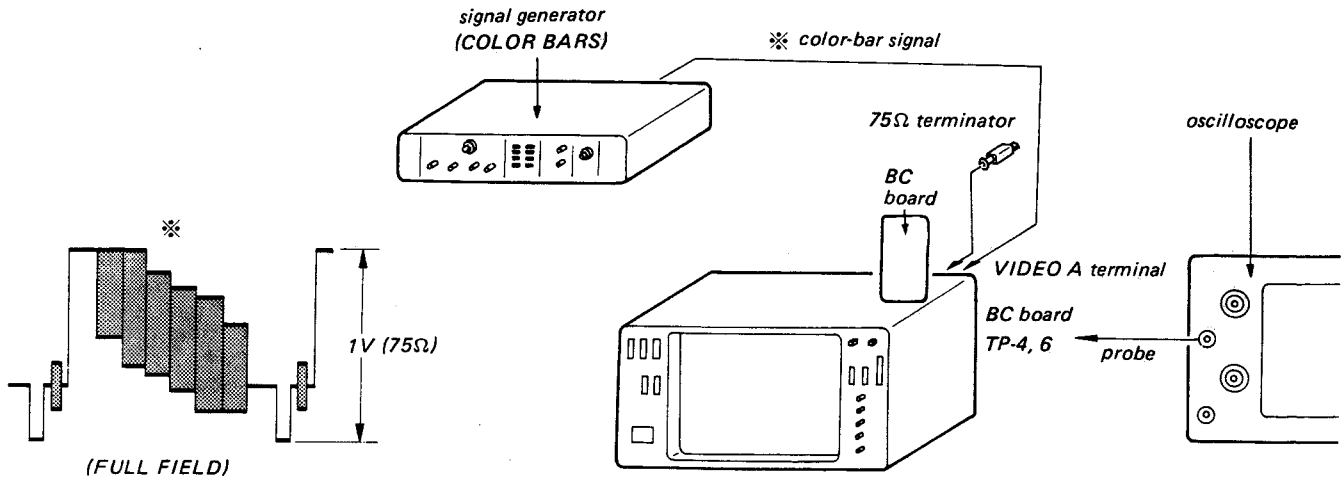

Fig. 5-125.
1. Complete the connections as shown in Fig. 5-125.